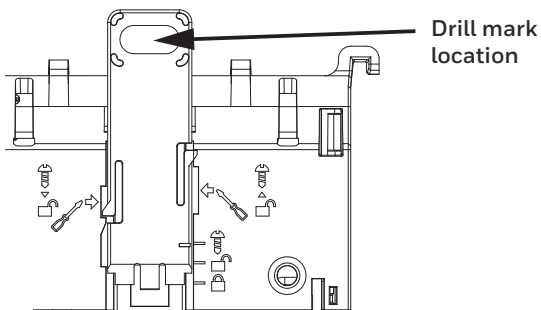

Fig. 10 Drill mark location
2. Hold the controller along the wall and mark drilling locations through the screw red clip slots, as shown in figure 10.